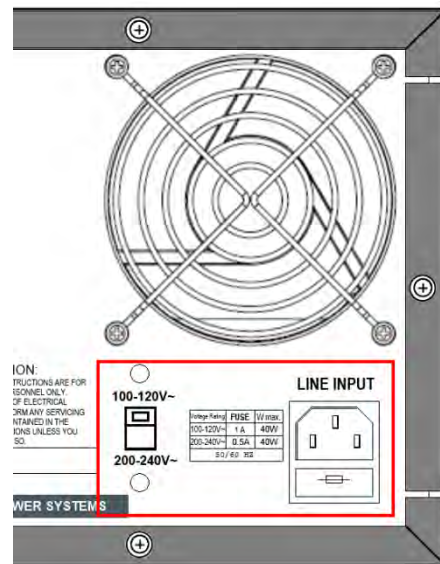

Figure 5-1: AC Input Voltage Selection
2. Refer the drawing on the rear panel of 34M01 mainframe load in Figure 5-1, set the switches to the proper voltage as indicated below.